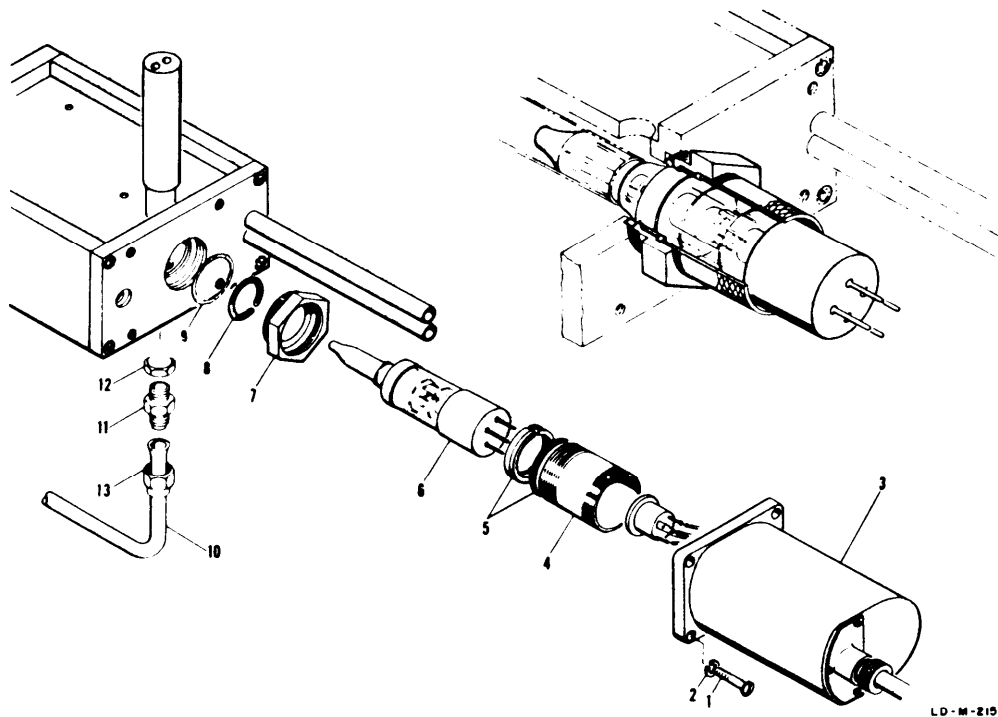

Figure 5-15. Exploded View of Klystron Mounting Parts (618C).
a. Remove the socket housing cap, screws and lock washers (items 1 and 2, Figure 5-15). Pull the housing (3) away until the tube socket is exposed.
c. Unscrew and remove sleeve (4) which covers klystron body. Do not at any time apply side motion to the klystron; to do so will break the tube.
d. Turn klystron (6) clockwise, and at the same time pull straight back from the cavity. Do not attempt to rock the klystron.
e. Remove clamping ring and rubber washer (5).
f. Unscrew retaining nut (7) at cavity entrance using socket wrench supplied with the instrument. Remove the seating ring (9) and the spring (8) below retaining nut. Do not use this spring or washer again except as a necessity. New springs and washers are supplied with replacement klystrons ordered from Hewlett-Packard Co.
a. Install new waffle seating ring (9, Figure 5-15) and then new spring (8) in cavity entrance. Ends of spring should meet to form a complete circle.
b. Thread the retaining nut (7) into cavity until it is seated very lightly against the spring. Press spring into place under the nut so that it forms a circle. Tighten the nut slightly to hold the spring in position.